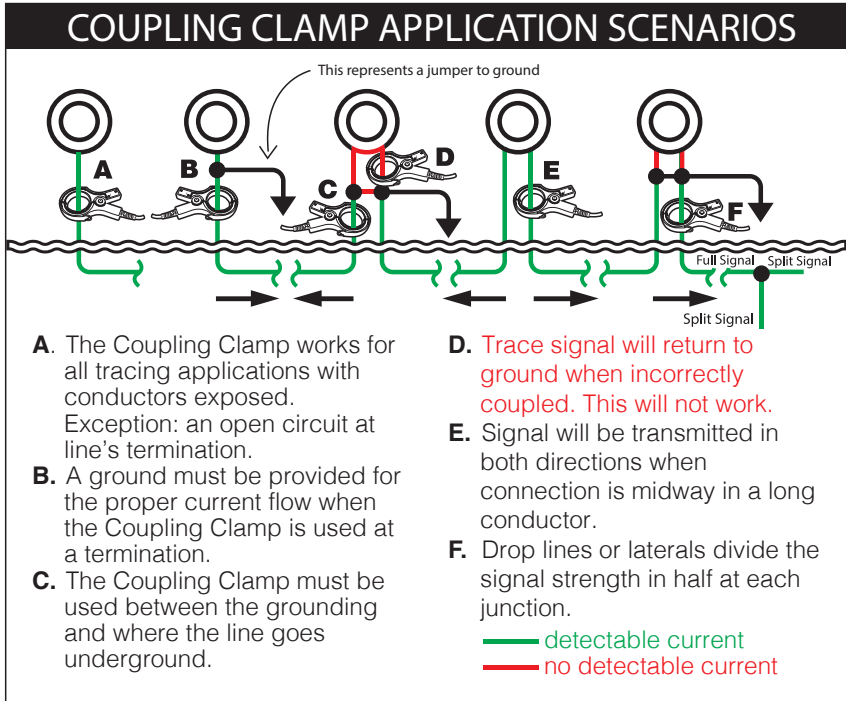

Figure 12. Coupling Clamp Scenarios
For this method to work effectively, the utility should be grounded at both ends to provide a good electrical circuit path. If adequate grounding is not provided, it may be necessary to add jumpers to ground at strategic locations to improve conductivity. See Figure 12 below. Insulated utilities may have enough stray capacitance to couple the signal to ground, but are generally weaker.
- STEP 3.** Locate a clamping point on an exposed part of the utility that is below and between ground connections to provide a good electrical circuit path, as mentioned above. See Figure 12 on page 36.
- STEP 4.** Locate a strategic point on an exposed part of the utility to insert a jumper wire to ground. See Figure 12 on page 36.